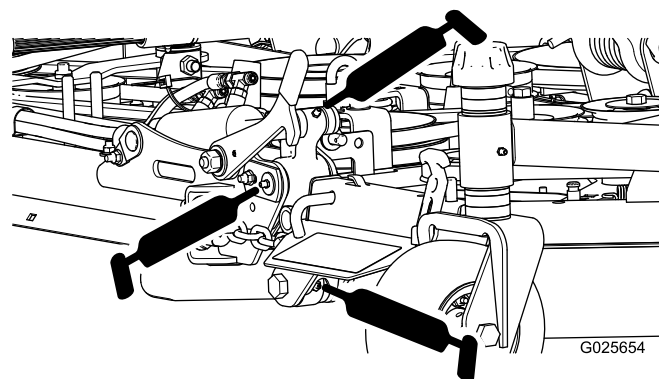

Figure 18
- Wing deck hinges (10) (Figure 18)